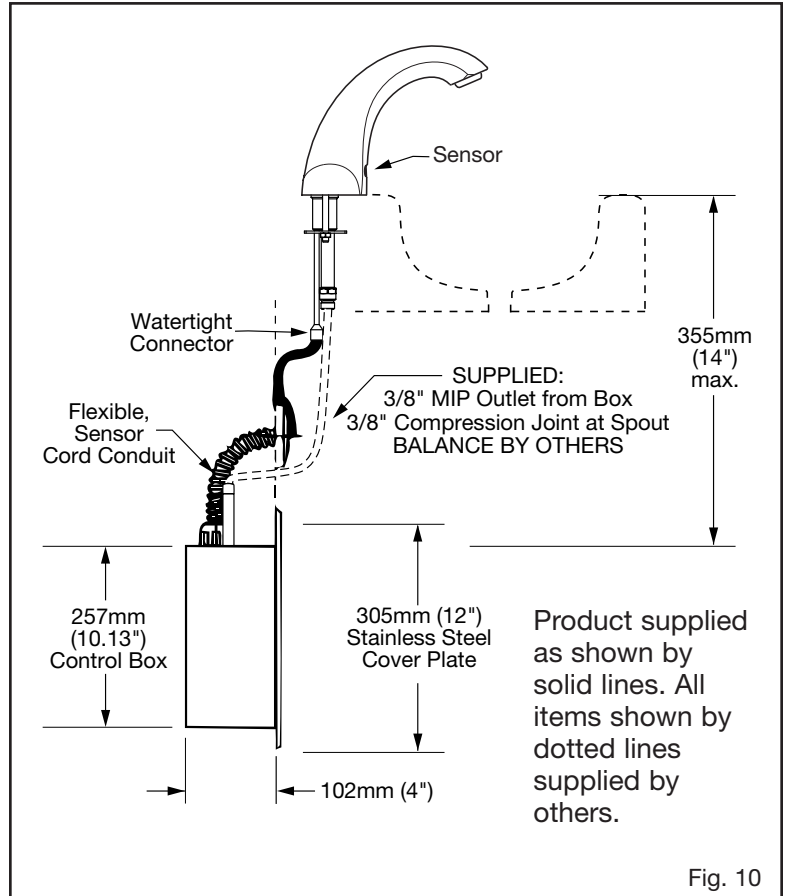

Fig. 10
**Note:** Wires connecting between box(es) and from transformer must be protected from abrasion, and being pulled at connections. They also may have to be fished through at a later stage of construction. Depending on installation, the cable bushings included may be replaced by installer supplied 1/2" conduit. Rough-in box as per Fig. 10.
**HARDWARE OR BATTERY** If recessed box is supplied, rough in as per Fig. 10. The most vandal resistant installation is when the control box is as close to the bottom of the sink as feasible. For wall hung sink installation, sensor conduit rough in should be directly under the basin to minimize sensor cord exposure. Rough in drainage. Rough in water supply to 10" control box inlets and to spout connection. Finish walls.